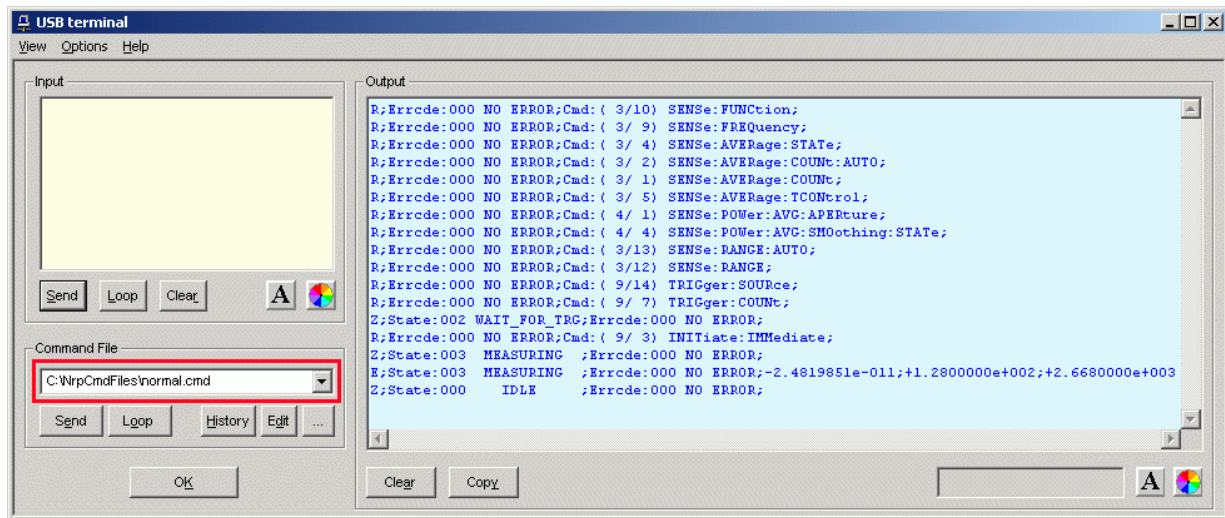

Fig. 3-2 Sending commands using command files
- Commands or command sequences are stored in *command files*. Command files are created with a text editor, for instance, and then stored. They can be called as often as required (Fig. 3-2). The buttons of the **Command File** field are described in Table 3-2.